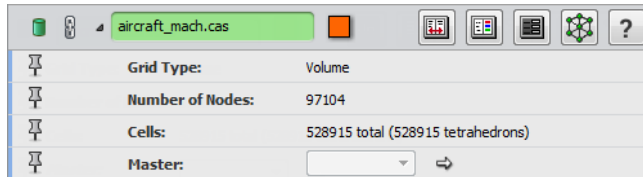

Figure 20.67: Properties area of the model
- Select the model in the *Project View*. Details about it appear in the Properties area (see Figure 20.67).